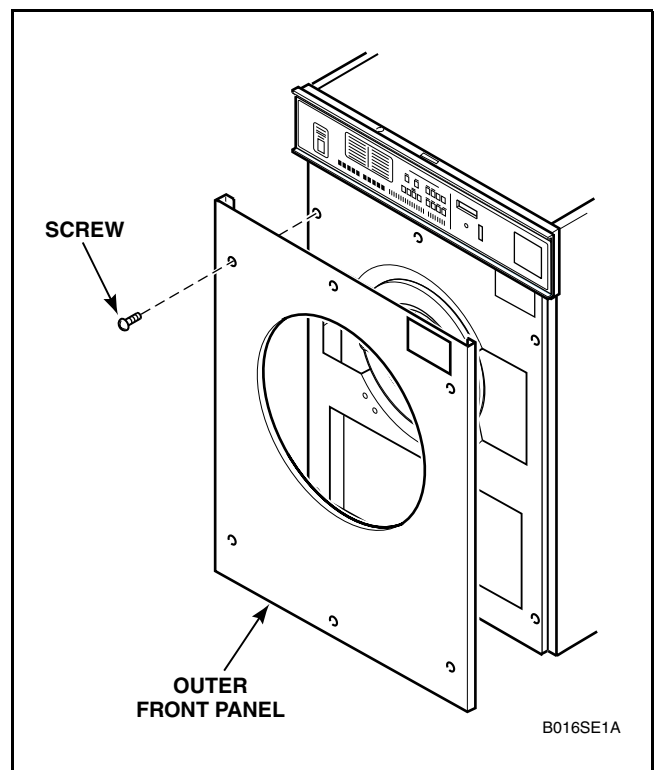

Figure 17
- Support outer front panel while removing six screws holding panel to front of washer-extractor, refer to *Figure 17*.
- a. Support outer front panel while removing six screws holding panel to front of washer-extractor, refer to *Figure 17*.
- e. Support outer front panel while removing six screws holding panel to front of washer-extractor, refer to *Figure 17*.